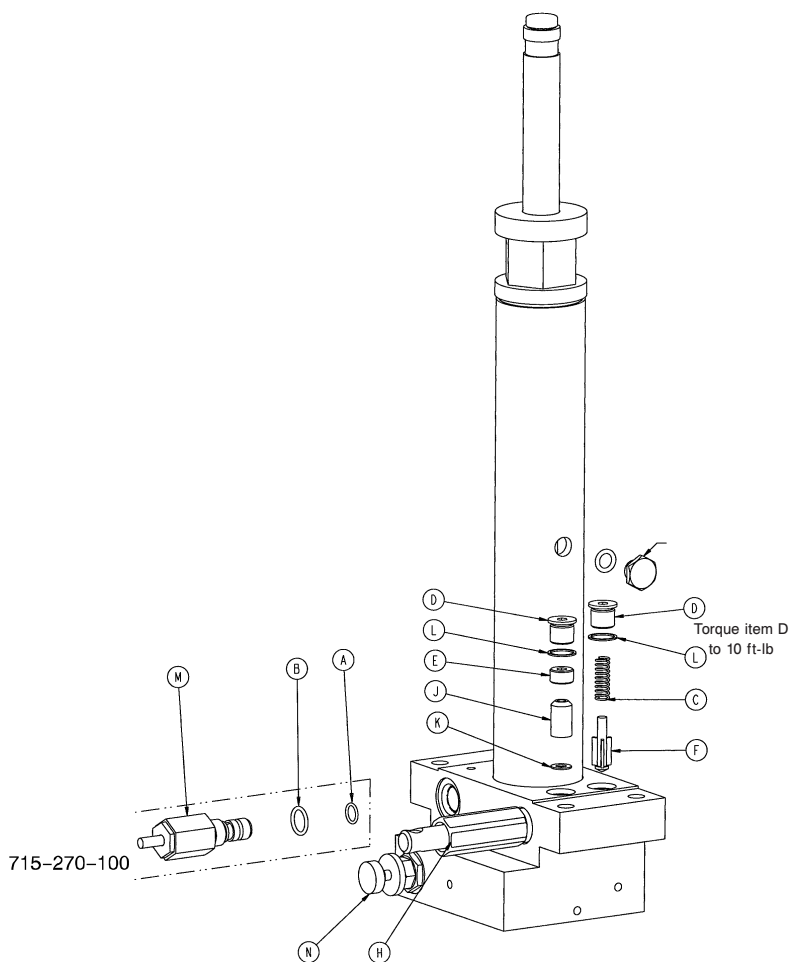

Figure 7 – Poppet valve replacement
4. Using a 1/4" hex wrench, remove the base plug (D) and the seal (L) (Figure 7). Save the base plug and seal.
5. Remove and save the compression spring (C).
6. Using small needle nose pliers, remove and discard the poppet valve (F).
7. Install the supplied poppet valve (F).
9. Using a 1/4" hex bit socket, reinstall the seal (L) and base plug (D) (removed in step 4). Using a 3/8" drive torque wrench, torque the base plug to 10 ft-lb.
5. Using a 1/4" hex wrench, remove the valve plug (E). Save the valve plug.
6. Using a stiff wire that is bent and pointed at the end, remove and discard the check valve (J) and the seal (K).
7. Install the supplied seal (K). Use a 1/2" diameter rod to make sure that the seal is flat to the bottom of the hole.
8. Install the supplied check valve (J) with the beveled end facing up.
9. Using a 1/4" hex bit socket, reinstall the valve plug (E) (removed in step 5). Using a 3/8" drive torque wrench, torque the valve plug to 10 ft-lb.
10. Using a 1/4" hex bit socket, reinstall the seal (L) and the base plug (D) (removed in step 4). Using a 3/8" drive torque wrench, torque the base plug to 10 ft-lb.
4. Using a 13/16" combination wrench, remove and discard the adjustable P.C. valve (N) (Figure 7).